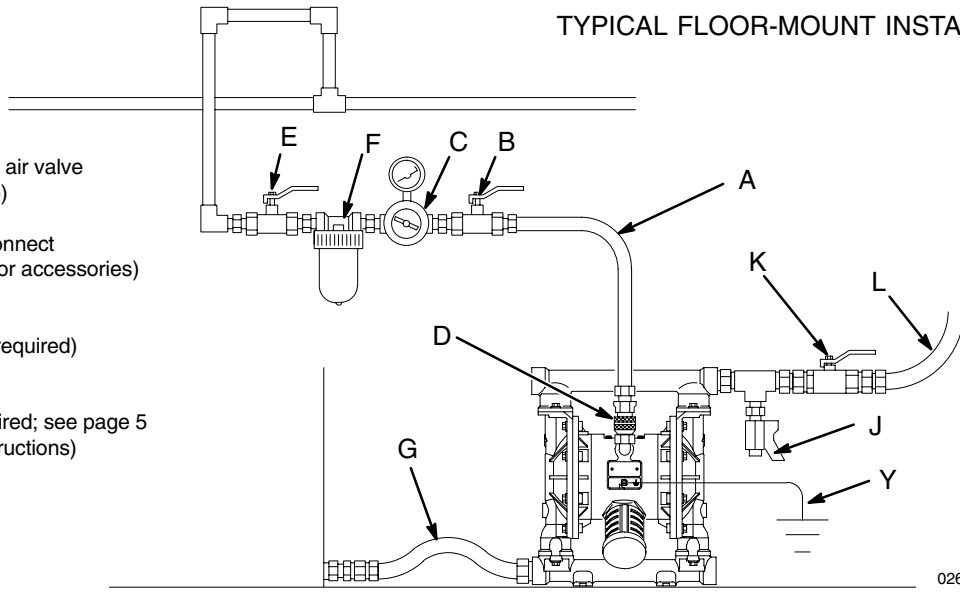

Fig. 3
A bleed-type master air valve (B) is required in your system to relieve air trapped between this valve and the pump. Trapped air can cause the pump to cycle unexpectedly, which could result in serious injury, including splashing in the eyes or on the skin, injury from moving parts, or contamination from hazardous fluids. See Fig. 3.
A fluid drain valve (J) is required to relieve pressure in the hose if it is plugged. The drain valve reduces the risk of serious injury, including splashing in the eyes or on the skin, or contamination from hazardous fluids when relieving pressure. Install the valve close to the pump fluid outlet. See Fig. 3.
KEY FOR FIG. 3